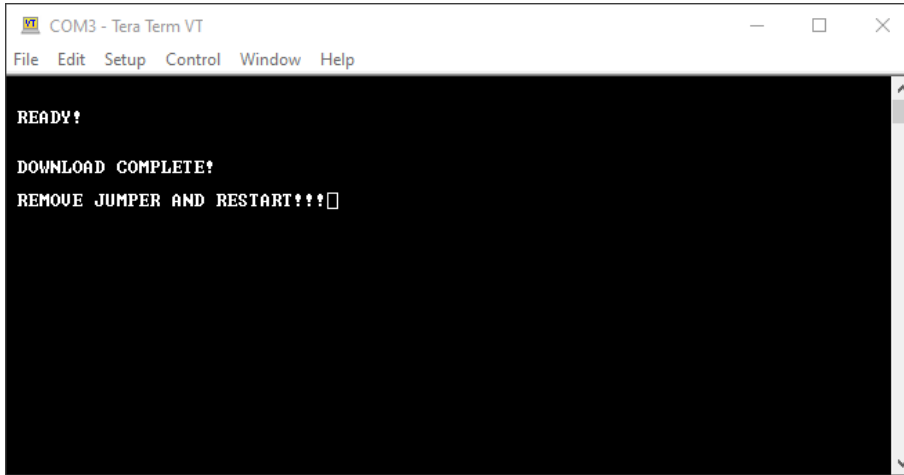

Figure 14. Console Screen – Software image download has finished
6. When the software image download has finished D3 remains illuminated and **DOWNLOAD COMPLETE!** message is printed in the console screen (Figure 14). You must unplug the USB cable and remove the jumper wire. Next time the MCU powers up, it copies the new software image, and boots from it. This completes the software image update process. If the red LED D4 is illuminated, the bootloader becomes unresponsive or the image transfer sticks, there is something wrong with the image update process. Unplug the USB cable and restart the process from Step 1.